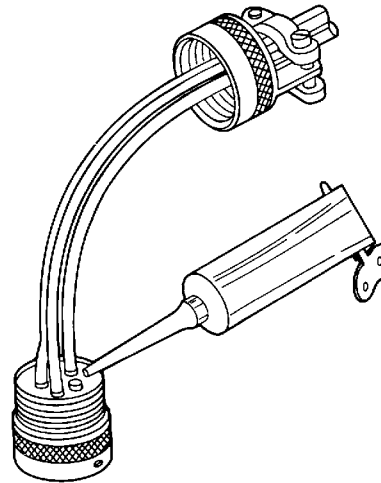

Figure 17. Sealant Application
f. Insert nozzle into wire bundle close to connector and squeeze tube while pulling nozzle backward. Repeat application two or three times in different locations. Sealant will level itself in about 15 minutes. Recommended thickness is $1/16 \pm 1/32$ inch across entire wire sealing grommet (Figure 17).